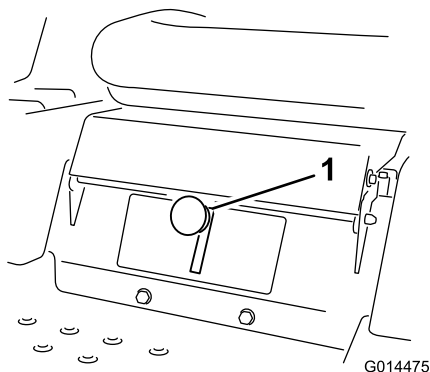

**Figure 16**
2. To go forward, slowly push the motion control levers forward (Figure 16).
To go straight, apply equal pressure to both motion control levers (Figure 16).
To turn, release pressure on the motion control lever toward the direction you want to turn (Figure 16).